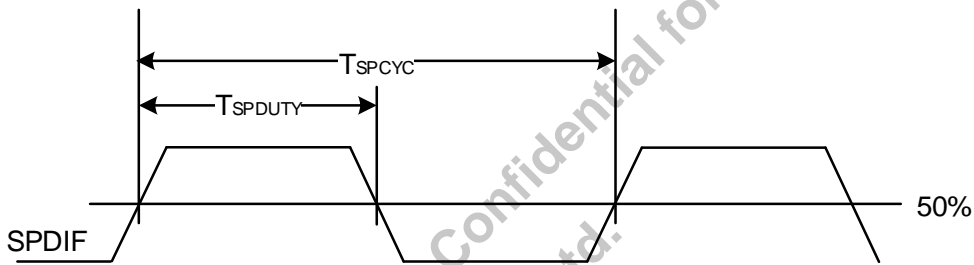
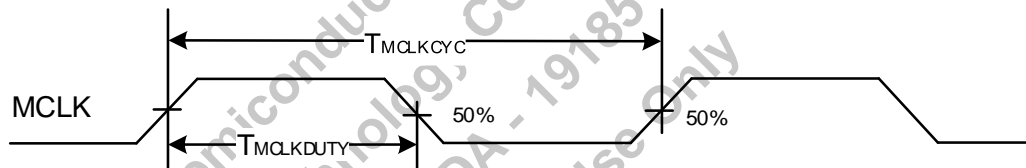

Figure 4.8. S/PDIF Output Timing
Figure 4.9. MCLK Timing
1. Proportional to unit time interval (UI), according to sample rate. Refer to the S/PDIF specification.
2. Refer to Figure 4.8 on page 27 and Figure 4.9 on page 27.